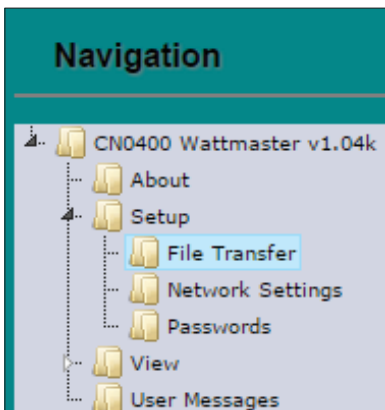

Figure 14: Navigation Window - File Transfer
4. In the *Navigation Window* on the left of the FS-GUI Screen, click <Setup> and then click <File Transfer>. See **Figure 14**.